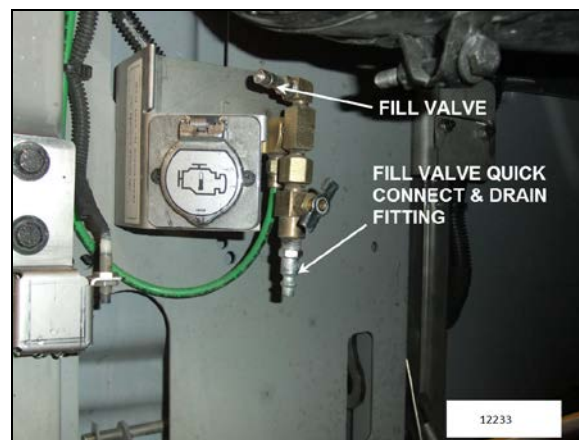

FIGURE 7: REAR VALVE LOCATION (TYPICAL)
The rear valve is located in the engine compartment and is accessible from engine compartment R.H. side door (Figure 7).
Replace the accessory air filter element at the intervals specified by the Lubrication And Servicing Schedule in Section 24: LUBRICATION & SERVICING or whenever differential pressure exceeds 15 psi (105 kPa) between filter inlet and outlet ports. Check condition of all three O-rings for damage. Replace when necessary (Figure 7).
The air dryer and wet tank may be purged simultaneously for maintenance purposes using the drain cock on the emergency air system fill valve located in the engine compartment and accessible through the engine compartment R.H. side door (Figure 7).
5. Release air dryer pressure by opening the air dryer drain valve (Figure 7).